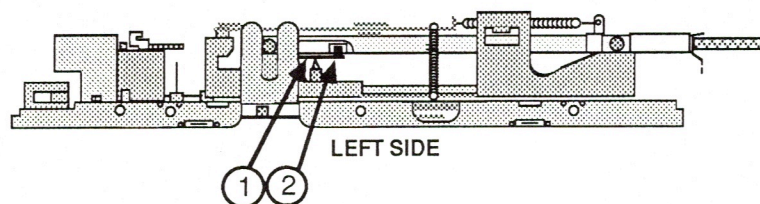

FIGURE 5
7. Locate the small arm with a cylindrical cog at its end. This arm is located near the left-to-right center of the drive mechanism (Figure 5, #1). The cog will be caught in the half-moon depression of the diskette case.
8. Insert a small screwdriver at the position shown in Figure 5, #2, and gently move the arm away from the diskette until the diskette pops forward slightly. Remove the diskette from the disk drive.